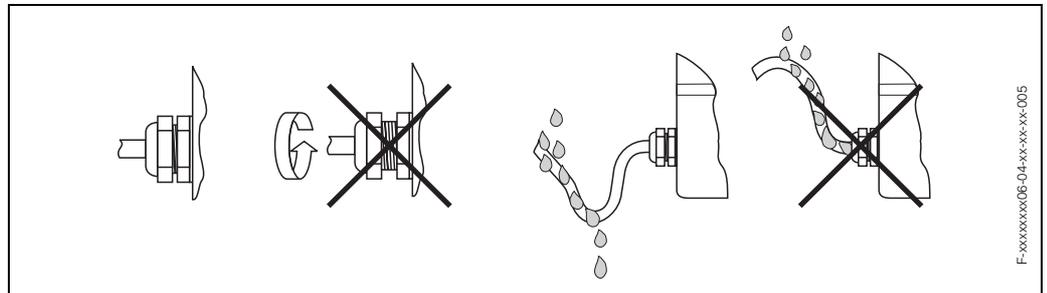

Fig. 21: Installation instructions for cable entries
- Firmly tighten the cable entry (Fig. 21).
- The cables must loop down before they enter the cable entries (“water trap”, Fig. 21). This arrangement prevents moisture penetrating the entry. Always install the measuring device in such a way that the cable entries do not point up.